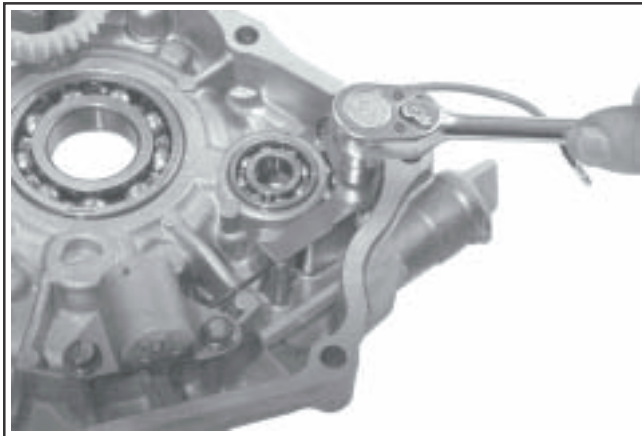

Figure 11-19. Tightening Mounting Screws.
2. Install shield for lead and secure with the M6x1.0 hex flange screw. **Torque all three screws to 10 N·m (88.5 in. lb.).** See Figure 11-19.